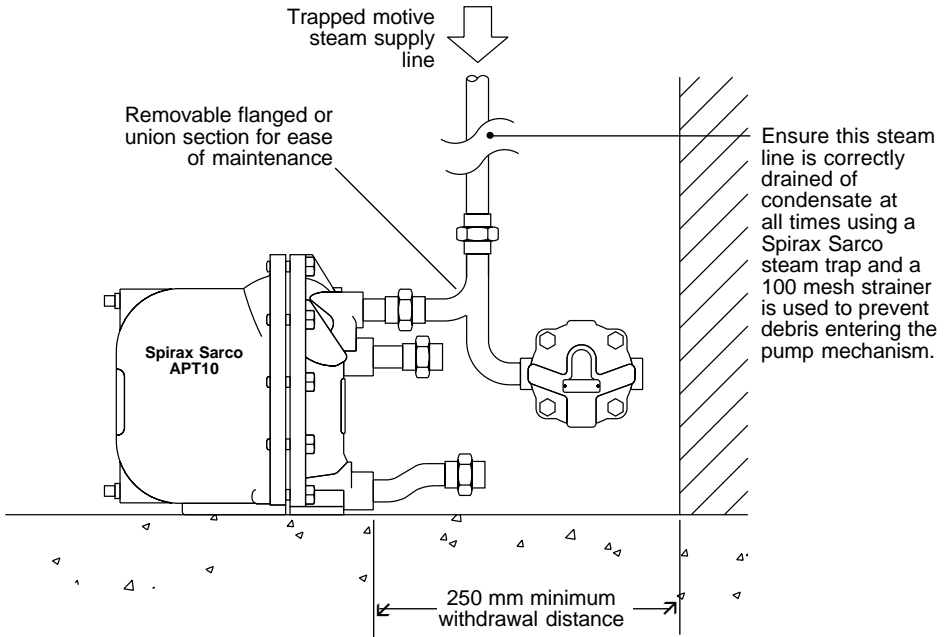

Fig. 10 Suggested coupling of motive supply and exhaust lines.
3.3 Connections (refer to installation diagram Fig. 10 opposite)
4.1 After ensuring the inlet and outlet pipe connections and steam motive/exhaust connections are coupled in accordance with Fig.10 / 11, slowly open the motive steam inlet line to supply pressure to the APT10. Ensure the exhaust /balance line is open and not restricted in any way.